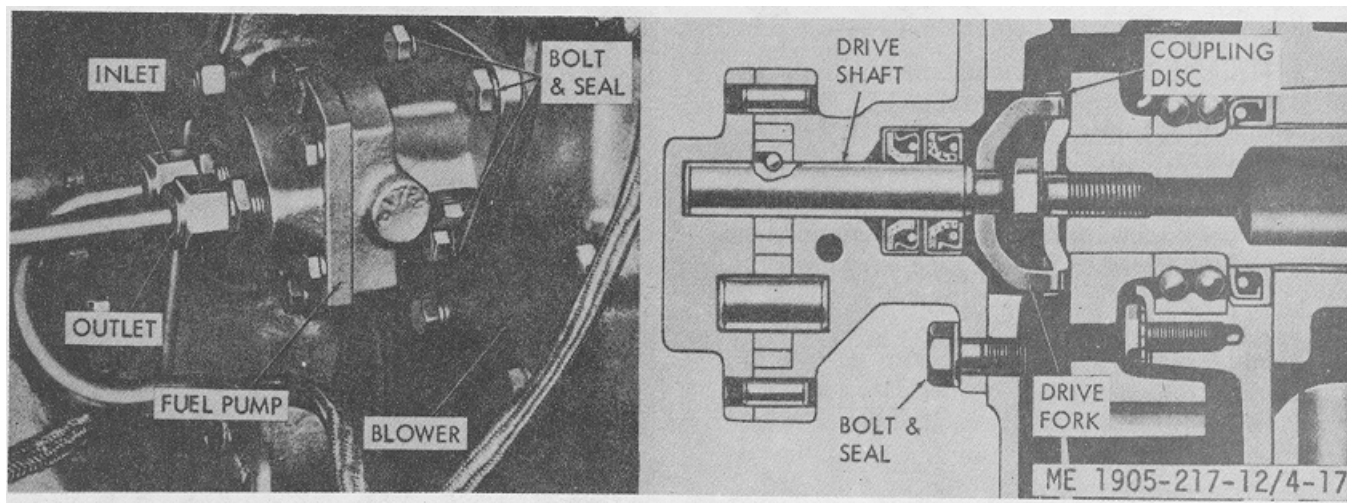

Figure 4-17. Fuel pump.
#### 4-29. Fuel Pump (fig. 4-17)
(1) Disconnect the fuel lines from the inlet and outlet openings at fuel pump.
(2) Disconnect the drain tube from the fuel pump.
(3) Remove the three pump attaching bolt and seal assemblies, using wrench J4242, and withdraw the pump from the blower.
(4) Check the drive coupling fork, and, if broken or worn, replace it with a new coupling.
c. *Installation (fig. 4-17).* The left-hand pump is used on "B" engines and the right-hand pump is used on "D" engines. The pumps are not interchangeable. The pump must always be installed with the inlet opening in the pump cover (marked "LH IN" or "RH IN") on the side toward the cylinder block. Install the pump as follows:
(1) Affix a new gasket to the pump body mounting flange and locate the pump drive coupling fork over the squared end of the drive shaft with prongs of fork directed away from the pump.
(2) Place the fuel pump assembly up against the blower with the prongs of drive coupling fork in registration with slots in drive disc on the blower rotor shaft.
(3) Secure the pump to the blower, with three bolt and seal washer assemblies.
(4) Connect the inlet and outlet fuel tubes to the fuel pump.
(5) Connect the drain tube to the fuel pump body.